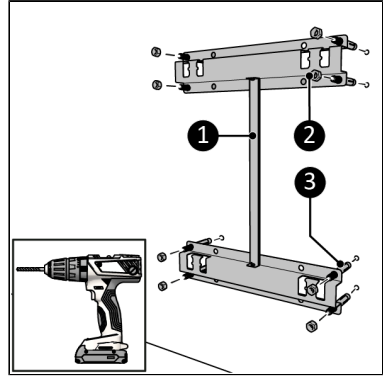

Figure 34.
3. Place the anchor bolts (Figure 34, pos 3).
4. Tighten the wall bracket (Figure 34, pos. 1) to the wall with the eight nuts (Figure 34, pos. 2).